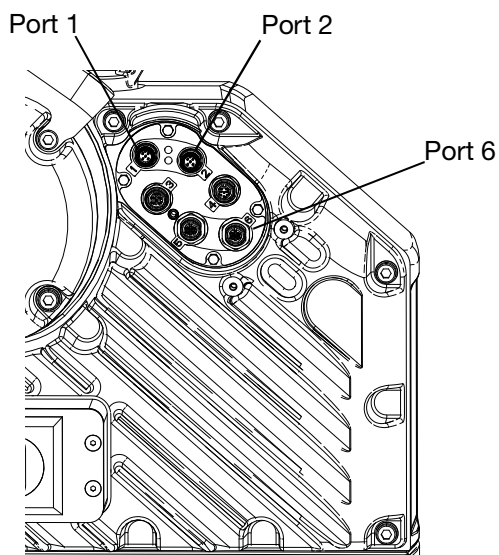

FIG. 35: Driver Port Locations
6. Using the four 10-32 mounting screws included with the kit, mount the base (CD) in the holes you drilled.
7. Reattach the CGM (CC) on the base (CD) with the two screws (CB) that were removed in step 5.
8. Reattach the access cover (CA).
9. Connect the CAN cable included in the kit to either port 1 or port 2 (whichever is available) on the driver. See FIG. 35.